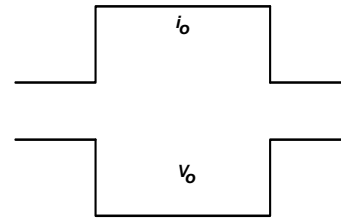
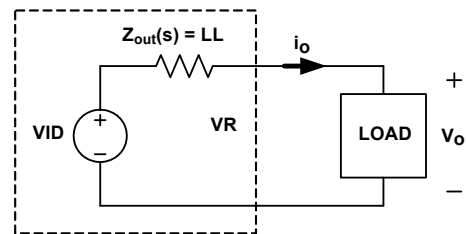

FIGURE 23. DESIRED LOAD TRANSIENT RESPONSE WAVEFORMS
FIGURE 29. VOLTAGE REGULATOR EQUIVALENT CIRCUIT
Assuming the compensator design is correct, Figure 23 shows the expected load transient response waveforms if C_n is correctly selected. When the load current I_{core} has a square change, the output voltage V_{core} also has a square response.
Figure 23 shows the desired load transient response waveforms. Figure 29 shows the equivalent circuit of a Voltage Regulator (VR) with the droop function. A VR is equivalent to a voltage source (= VID) and output impedance $Z_{\text{out}}(s)$. If $Z_{\text{out}}(s)$ is equal to the load line slope LL, i.e., a constant output impedance, then in the entire frequency range, V_{o} will have a square response when I_{o} has a square change.